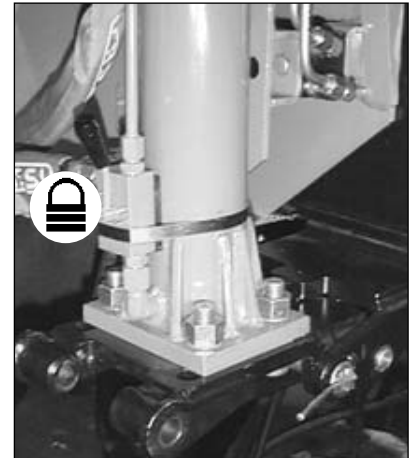

fig. 34
- Make sure that the ram valve tap **S1** is closed (fig. 34).